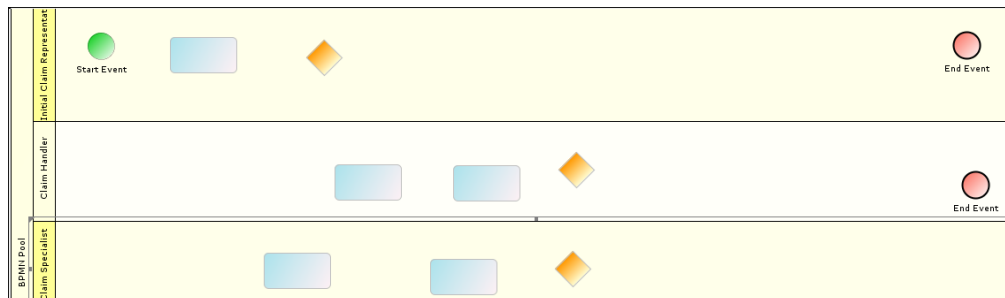

Figure 10: Dragging Gateway into Swim Lane
4. Click **Gateway** element () in the Palette and drag in the required swim lanes (see Figure 10).